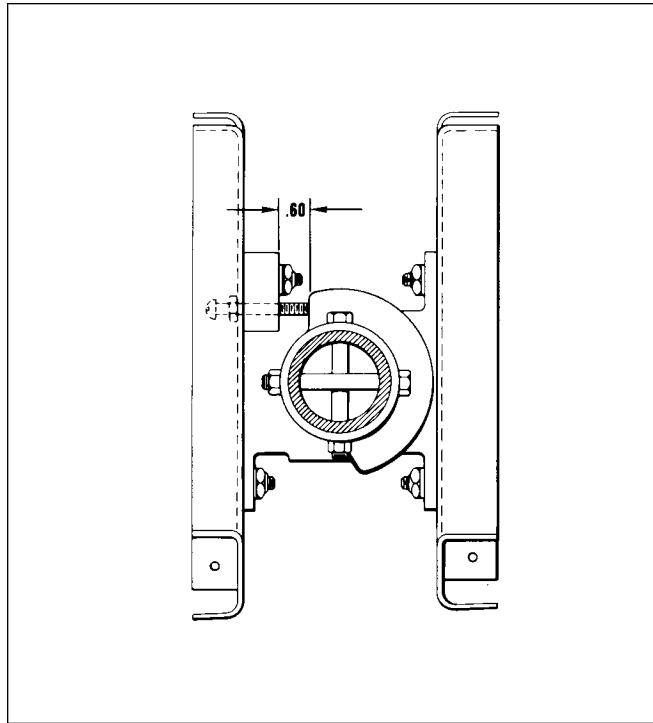

Figure 27-20. Flap Step Adjustment
3. To adjust the flap up stop and step lock, loosen the jam nut of the right torque tube stop screw, located in the floor opening along the outer end of the flap torque tube, and turn the stop screw to obtain approximately .60 of an inch between the stop fitting and the bearing block as measured along the top side of the screw. (Refer to Figure 27-20.) It may be necessary to loosen the adjustment screw of the left stop.